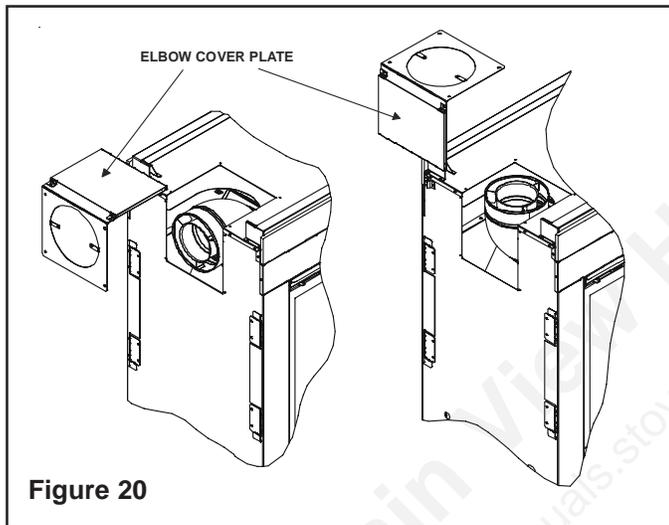

Figure 20
- To vent off the unit horizontally, the elbow cover plate must first be removed from the unit (see Figure 20).